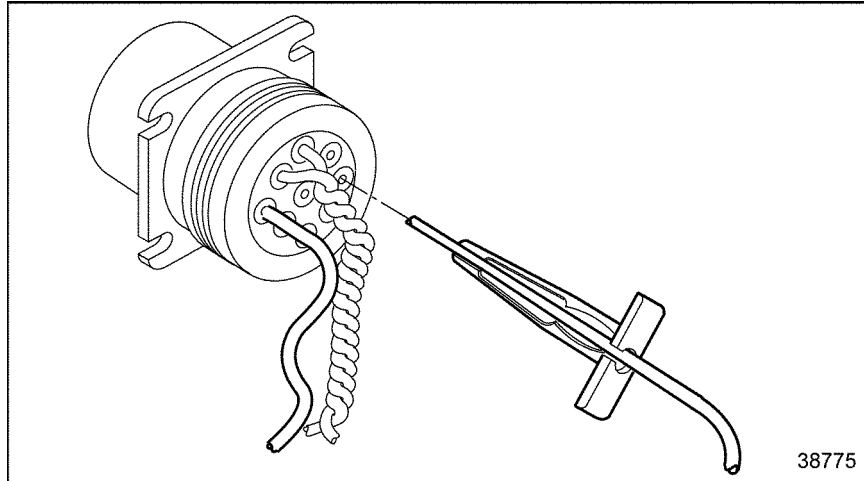

Figure 17-13 Removal Tool Insertion
2. Slide the tool along the cable into the insert cavity until it engages and resistance is felt. Do not twist or insert tool at an angle. See Figure 17-13.